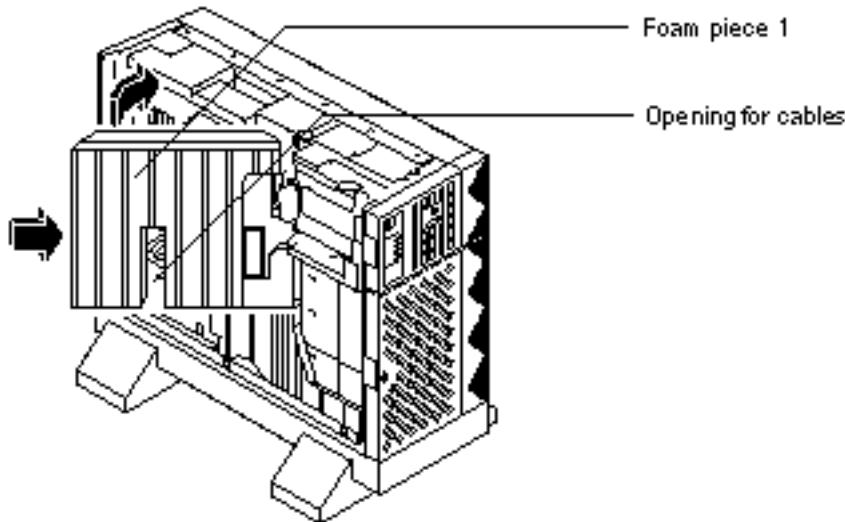

Figure 2–25 Replacing Foam Piece 1
3. **If necessary, fit the power cables in the opening located in the center of Foam Piece 1 (Figure 2–25).**
5. **With the Phillips #1 screwdriver, tighten the eight Phillips-head captive screws at the side and top of the left inner panel (Figure 2–26).**